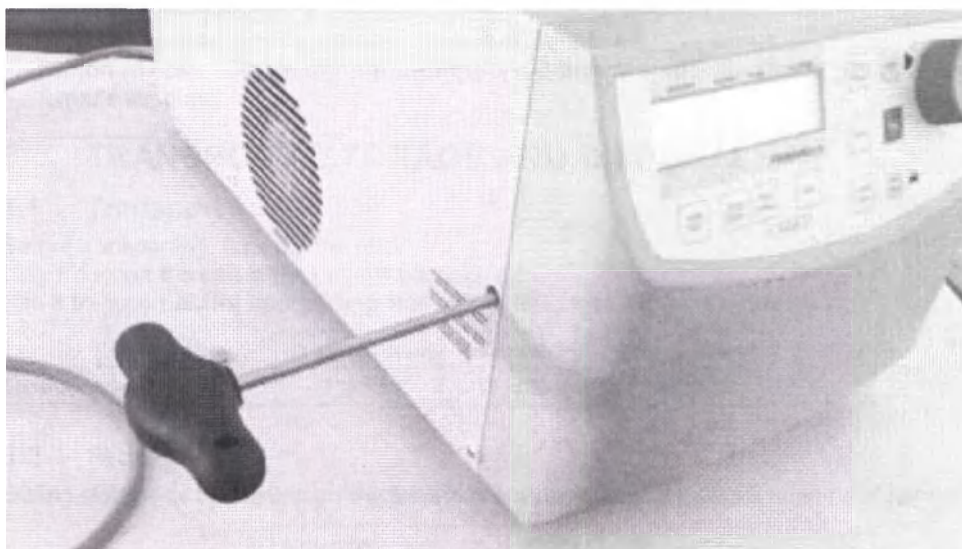

Figure. 38
4. Take the included box spanner, put it in the hole and lock the box spanner with the hexagon nut (See figure 38).